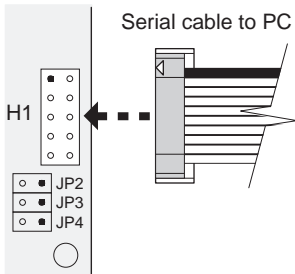

Figure 2-12. Serial Cable Connection to CM7100 Development Board
8. Connect the serial cable. Connect one end to the PC COM port. Then connect the 10-pin end to H1 of the Development Board as shown in Figure 2-12. Be careful to match the arrow on the connector to the location of pin 1 on header H1.
7. Connect the serial cable. Connect one end to the PC COM port. Then connect the 10-pin end to H1 of the Development Board as shown in Figure 2-12. Be careful to match the arrow on the connector to the location of pin 1 of H1.